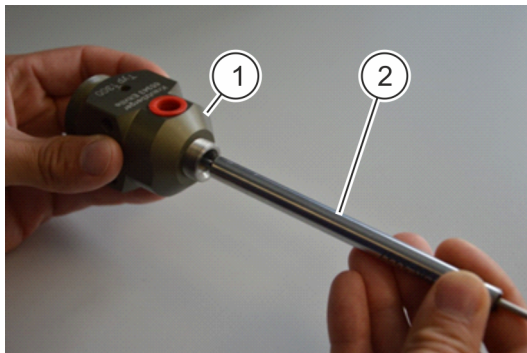

Fig. 8: Pushing out the piston completely
5. ➔ Push piston out of the main element ( Fig. 8/1) using the backside of the assembling tool ( Fig. 8/2).